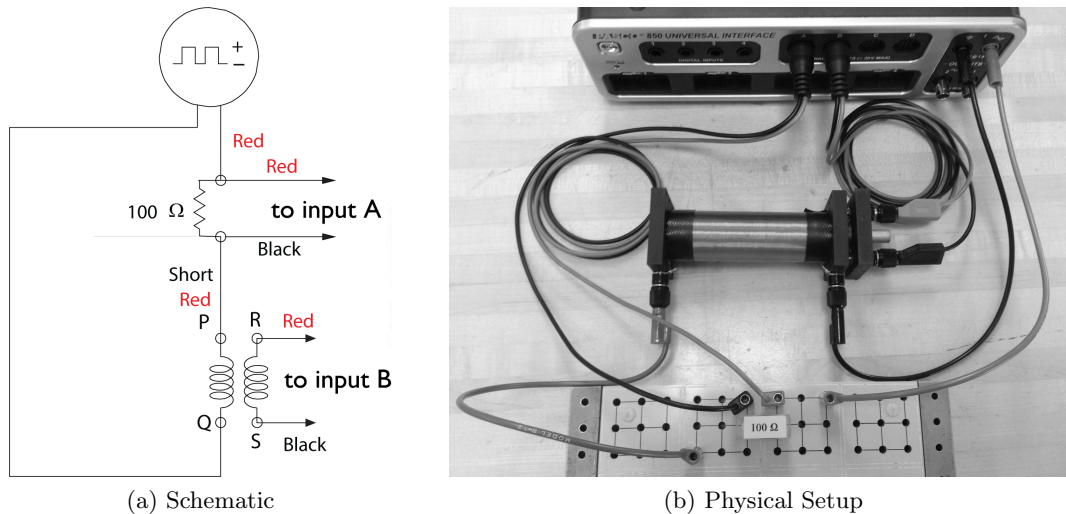

Figure 8: Schematic and physical setup
1. Set up the circuit shown in Fig. 8. Analog input A measures the voltage across the resistor, and is therefore proportional to the current through the outer coil. Analog input B measures the *emf* induced in the inner coil.